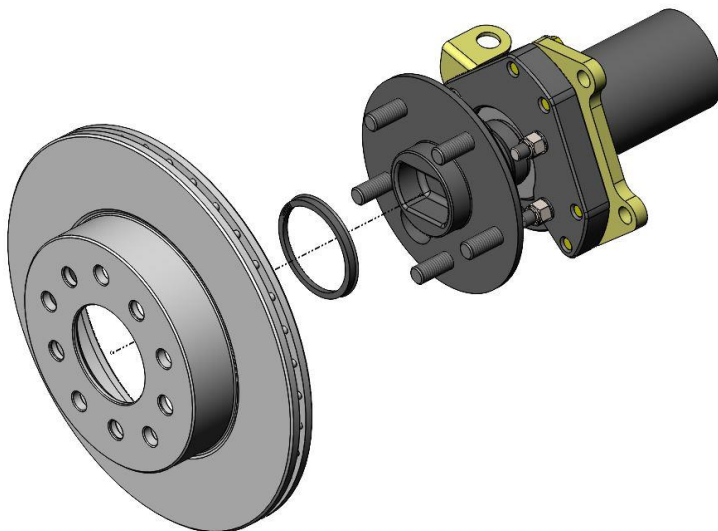
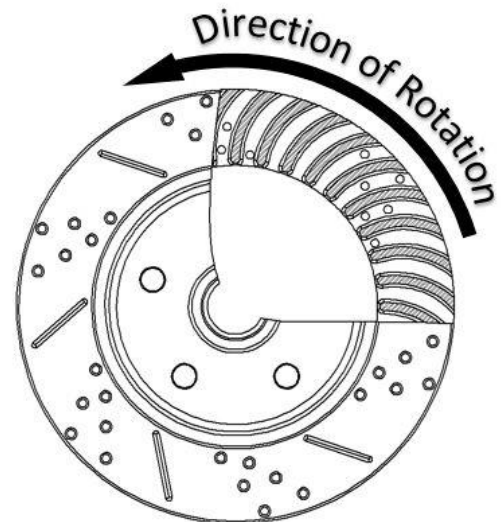

Figure 4a – Rotor and Centering Ring Installation
Figure 4b – Rotor Orientation
7. A Centric Ring is provided to center the rotor onto the axle shaft. Place the Centric Ring over the axle hub register. **NOTE:** To allow the Centric Ring to go all of the way against the axle shaft flange, it may be necessary to clean the hub register with a wire brush or emery cloth. Once the Centric Ring is in place, slide the rotor over the studs and verify that the rotor is flush to the axle flange. Figure 4a below shows the proper sequence. To make caliper installation easier, thread a couple of flat washers and nuts against the rotor to act as a lug nut and hold everything in place. **IMPORTANT:** If using slotted and drilled rotors, pay close attention to Figure 4b below for proper rotor placement on the driver and passenger side.